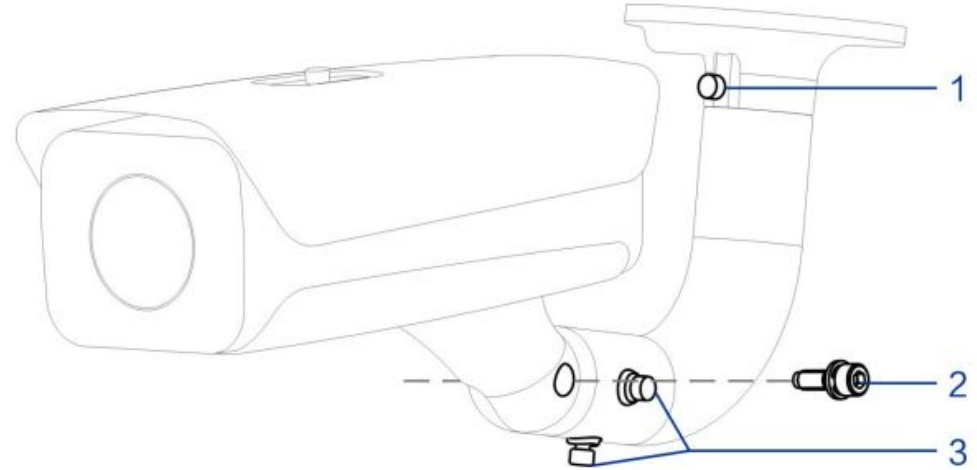

Figure 2-1
Step 1 Loosen the No. 1 and No. 3 screws shown in Figure 2-1.